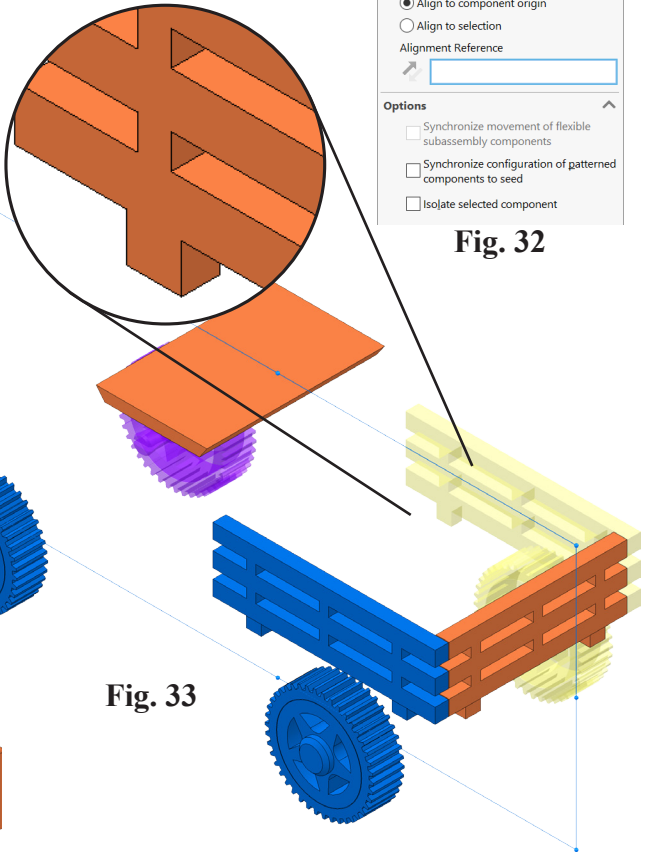

Fig. 33
Step 5. Still in Mirror Property Manager: Step 2: Set Orientation Confirm the Side Rails are positioned with flush side on inside, **Fig. 33** click **OK**.